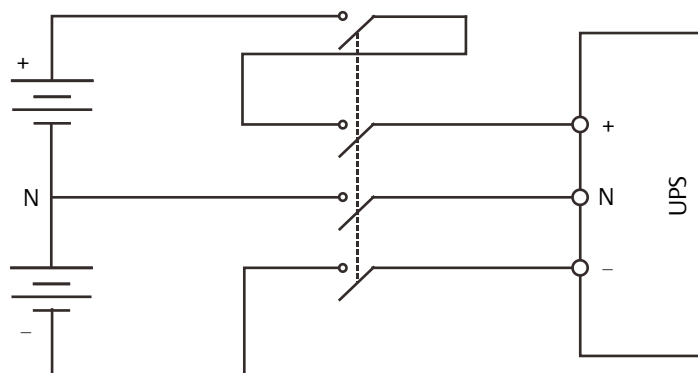

Figure 6-8 Connections between battery, BCB and UPS (3 wire at battery side, battery consisting of 30 to 44-block)
2. It is recommended to use a 4P DC MCCB, with DC rated voltage of the breaker meeting 1-pole 250Vdc, 2-pole 500Vdc, 3-pole 750Vdc, and rated breaking capacity limit being 35kA. Refer to Figure 6-8 for the connections between the battery, BCB and UPS.